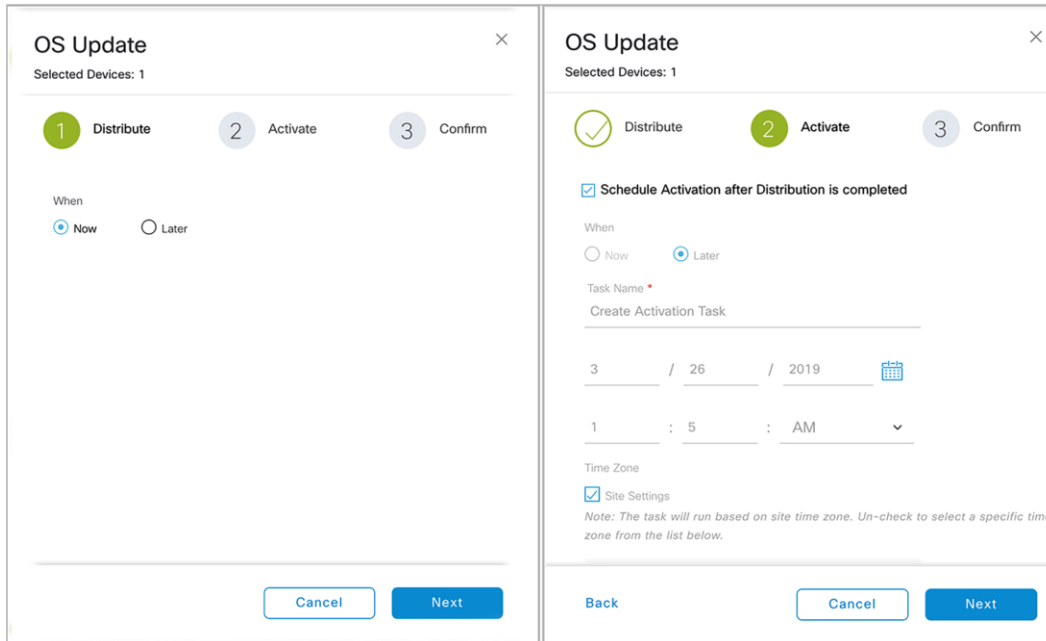

Figure 60.
- Check the Schedule Activation After Distribution Is Completed check box (Figure 60).